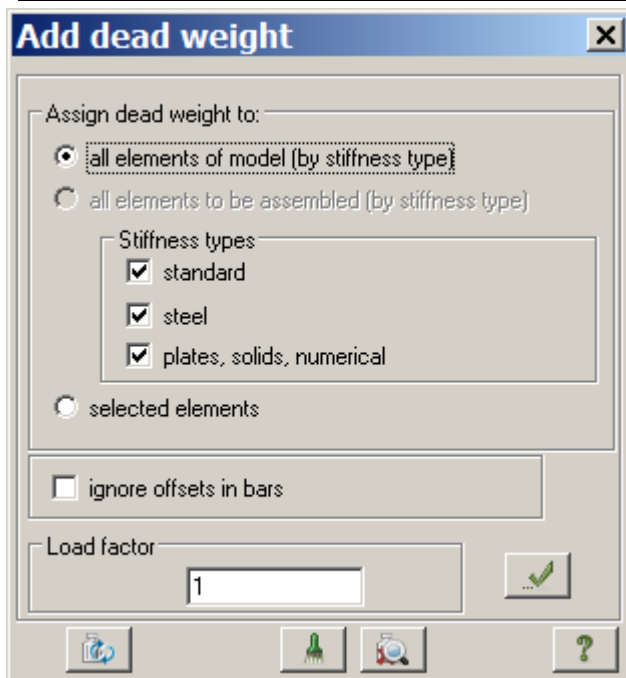

Figure 21.16 Add dead weight dialog box
- ⇒ In the **Add dead weight** dialog box (see Fig.21.16), click **All elements** and specify **Load factor** as equal to **1**. Then click **Apply**  (dead weight is automatically applied to elements).